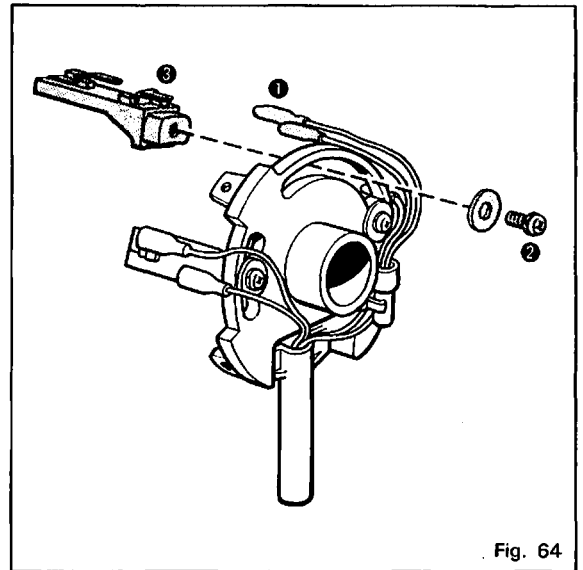

Fig. 64
(4) Changing lead switch
- a. Remove cover and pull out the terminal ❶.
- b. Remove screw ❷ and replace lead switch ❸.
- c. To put the terminal ❶ must be done with red wire to be sewing machine pulley. (Fig. 64)